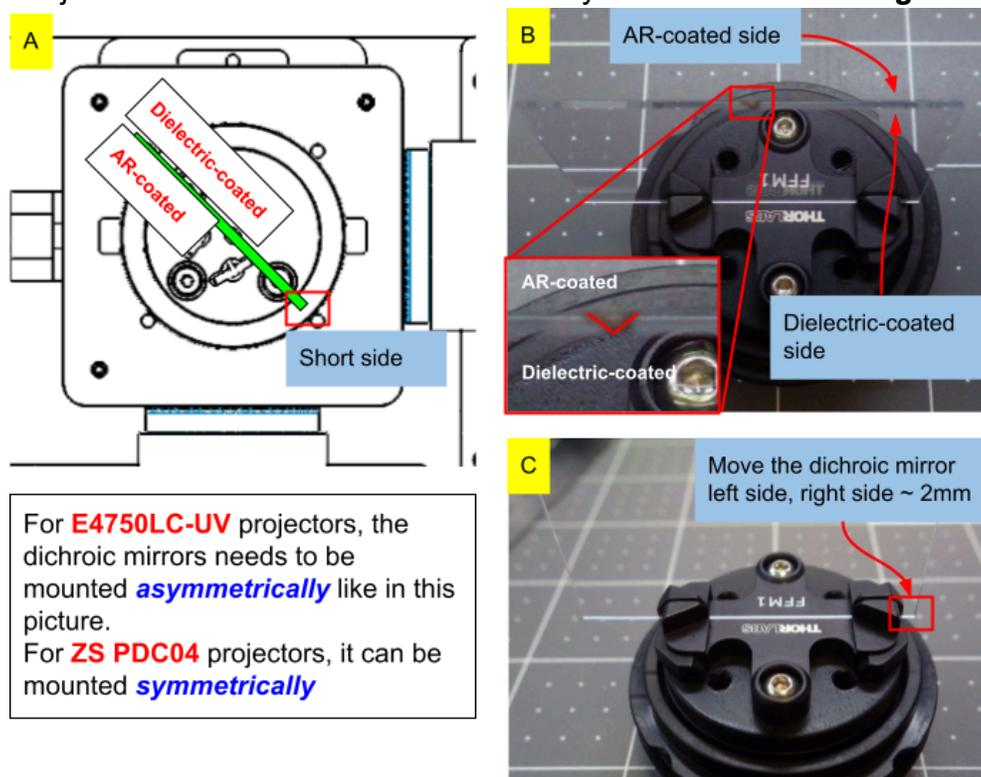

Fig. 21. Dichroic filter assembly mount
- The dichroic mirror's two surfaces have different coatings: **the arrow pointed side has a dielectric coating** for short wavelength reflection while **the other side has an anti-reflection coating** for long wavelength transmission (**Fig. 21-B**).
- If your printer has the E4750LC-UV projectors, mount the filter asymmetrically as shown in **Fig. 21-C**. This is because of the shorter throw ratio of the projection lens compared to the one from the ZS PDC04 projectors.
- The three adjusters of the dichroic mirror assembly should look like in **Fig. 21-A**.